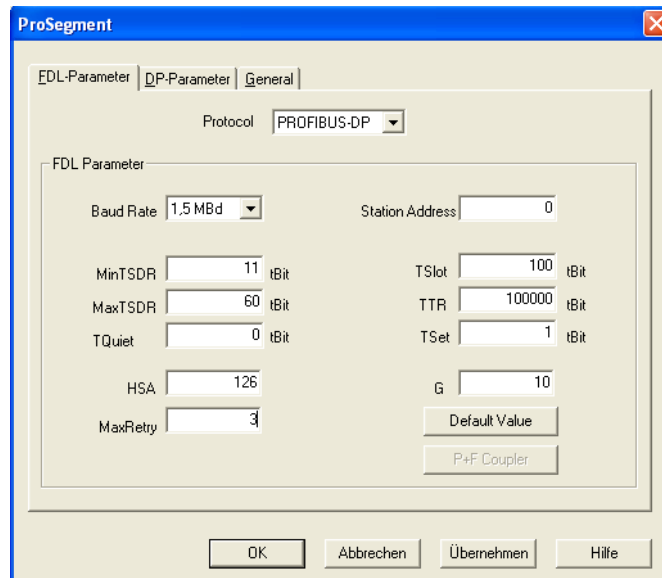

Figure 35. is Pro Multiserver Channel Properties
9. Right-click the Channel_0_0 and select **Properties**. A screen similar to the one shown in Figure 35 is displayed.